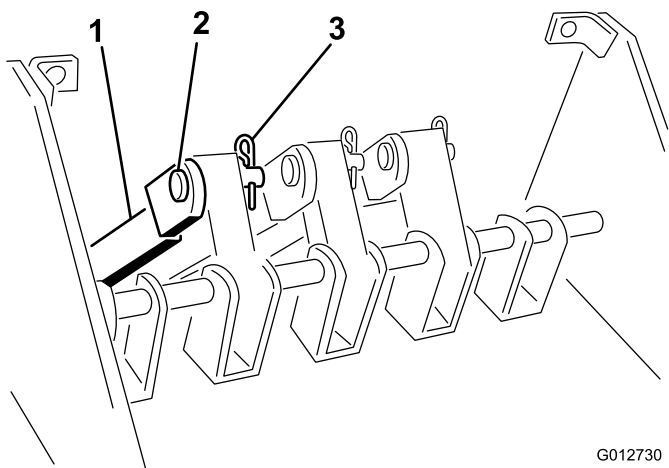

Figure 16
4. Remove the locknut and pivot securing the pivot block levers to the control tower (Figure 16).
5. Install the new pivot block levers onto the pivot pin while reinstalling the existing pin and the existing blocks into the control tower (Figure 16).
6. Secure the upper control linkage tubes to the pivot blocks with clevis pins and cotter pins (Figure 16). Coat the pins with #2 grease.